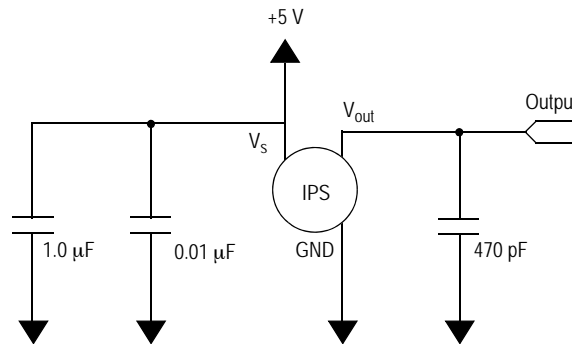

Figure 3. Recommended Power Supply Decoupling and Output Filtering
**Table 1. Operating Characteristics** ( $V_S = 5.1$  Vdc,  $T_A = 25^\circ\text{C}$  unless otherwise noted,  $P1 > P2$ . Decoupling circuit shown in Figure 3 required to meet electrical specifications.)
Figure 3 shows the recommended decoupling circuit for interfacing the output of the integrated sensor to the A/D input of a microprocessor or microcontroller. Proper decoupling of the power supply is recommended.
Figure 4 shows the sensor output signal relative to pressure input. Typical, minimum, and maximum output curves are shown for operation over a temperature range of 0° to 85°C using the decoupling circuit shown in Figure 3. (The output will saturate outside of the specified pressure range.)